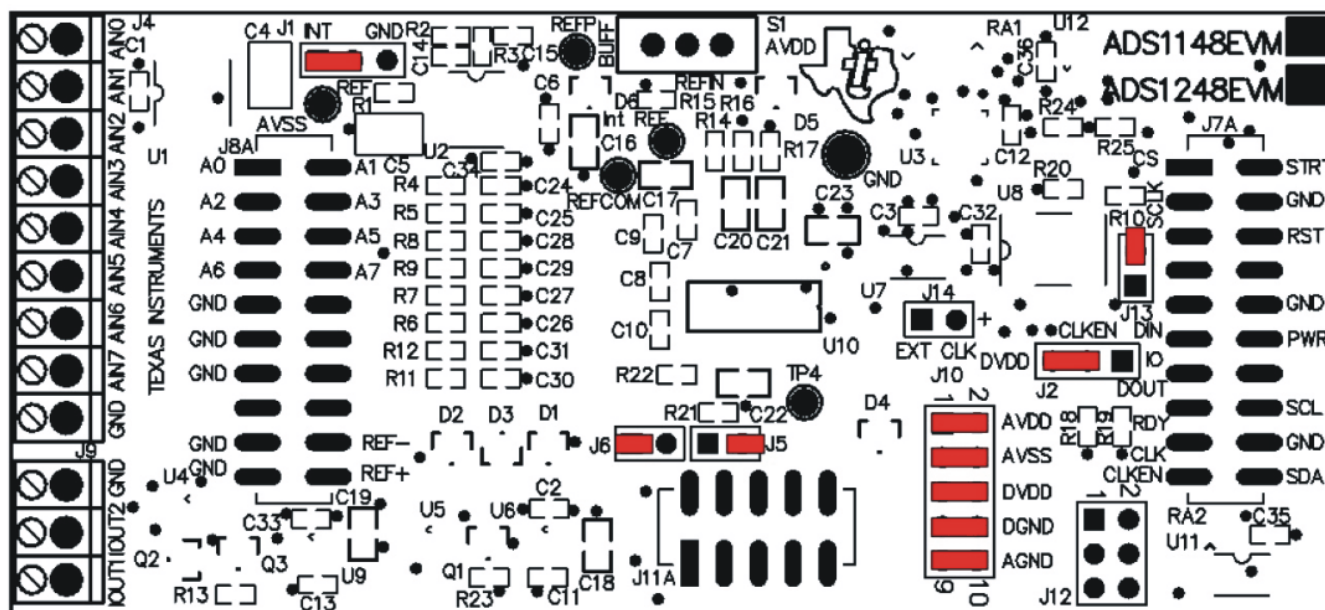

Figure 3. ADS1248EVM Default Jumper Locations
Figure 3 shows the jumpers found on the EVM and the respective factory default conditions for each.
- Step 4. Set the jumpers and switches on the ADS1248EVM as shown in Figure 3 (note that these settings are the factory-configured settings for the EVM).